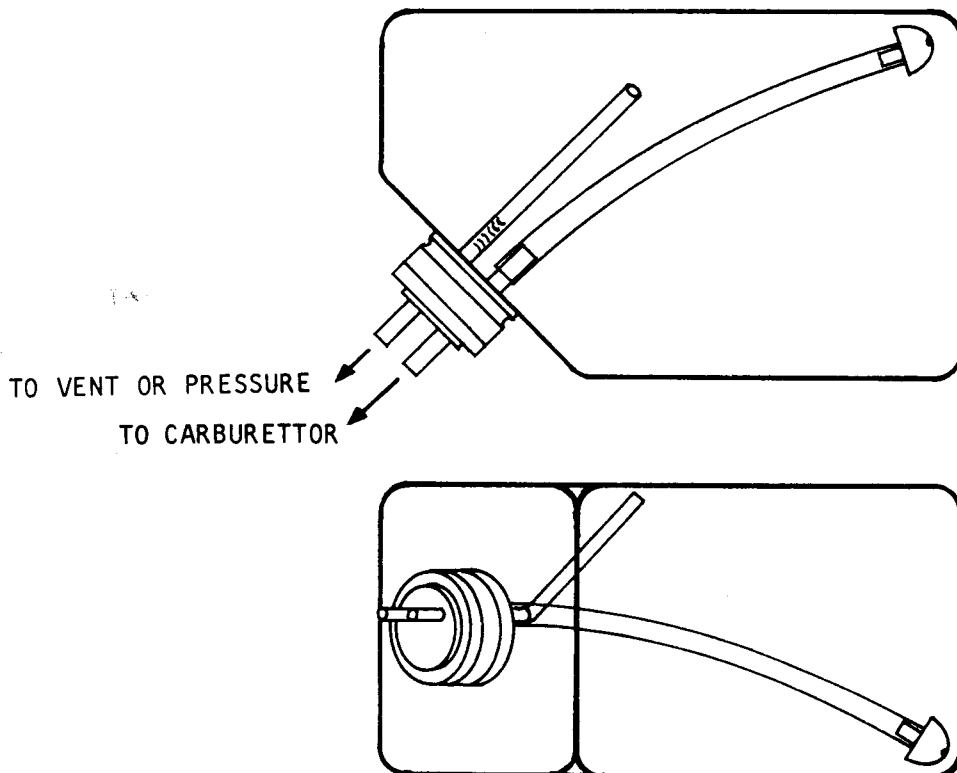

Figure 13
STEP 18 FUEL TANK ASSEMBLY - see Figure 13